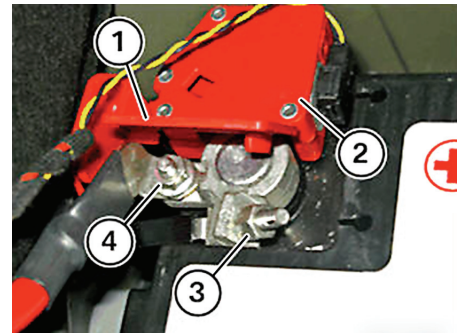

Fig. 2 Positive cable connection at battery
3. Fold up cover (1) on safety battery terminal (2), **Fig. 2**.
4. Loosen nut (3), then remove safety battery terminal (2) toward top, lay to one side and fix in position, **Fig. 2**. Nut (4) must not be loosened or released.